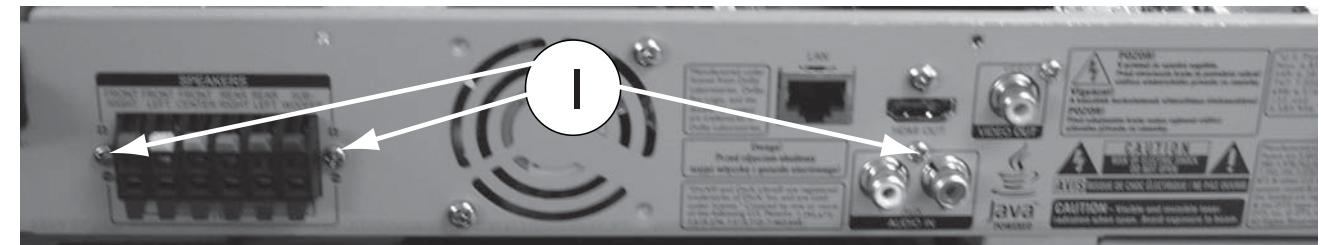

Figure 15
2) Loosen 3 screws "I" at the back panel as shown in figure 15.